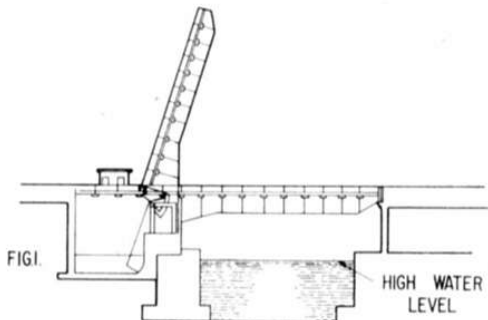

FIG. 2.
Rolling Bridges are those where the moving span is carried upon wheels or rollers and travels in a straight line across the waterway. In general the weight of the moving span is supported upon fixed portions of the construction. Not many of this type are built and one of the few examples in Britain may be seen in Newport docks. *Fig. 2* shows the moving girder of this bridge in closed and open positions. The span is 72 feet and the girder is moved by hydraulic power.
**Bracing Frame** (Fig. 2). Mild steel panel of welded angle and bar construction, used to brace the tops of the panels.